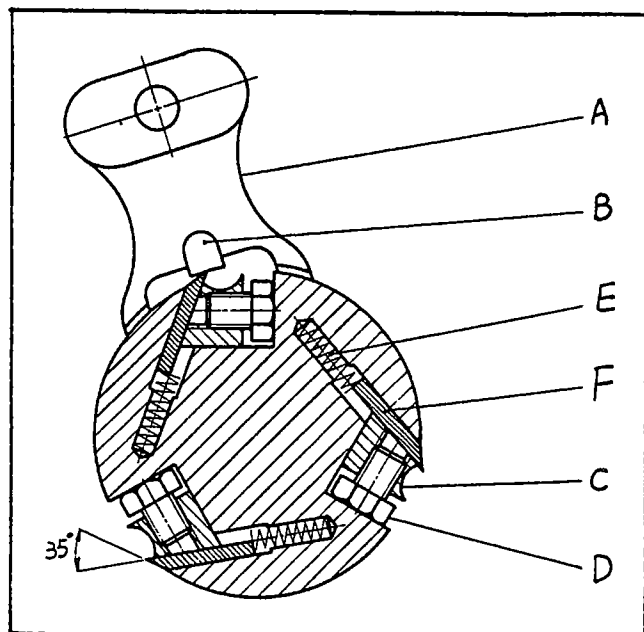

Fig. 23
B. If an adjustment to one or more of the knives is necessary, slightly loosen the knife locking bars (C) Fig. 23, of all three knives by turning the fifteen knife locking screws (D) into the knife locking bars just enough to relieve stress in the cutterhead and not disturb the setting of the knives.
C. using the knife gage, adjust the knife that must be reset by loosening all five locking screws (D) Fig 23, by turning them into the knife locking bar. As the knife locking bar becomes loose, lifter springs (E) located under the knife will raise the knife until it comes into contact with the center portion (B) of the gage (A) Fig. 23. Then snug up the knife locking bar by lightly backing out the five screws (D) against the slot. **IMPORTANT: AT THIS TIME, ONLY TIGHTEN THE KNIFE INTO THE SLOT JUST ENOUGH TO HOLD KNIFE INTO POSITION.**
A. To remove knives, loosen the knife locking bar (C) Fig. 23, by turning the five knife locking screws (D) into the knife locking bar (C) and remove the knife locking bar (C), knife (F) and springs (E) located under the knives.
D. Inspect the cutting edge of the knives for nicks or wire edge. Hone the knives slightly using a stone or if the knives are to be sharpened, maintain a cutting angle of 35 degrees as shown in Fig. 23.
E. Insert springs (E), knives (F) and knife locking bars (C), into all three slots in the cutterhead, as shown in Fig. 23. Back out locking screws (D) just enough to hold all three knives in the cutterhead.
F. Place the knife gage (A) over one of the knives, as shown in Fig. 23.
G. While holding down on the knife gage (A) Fig. 23, loosen all five locking screws (D) by turning them into bar (C) until cutting edge of knife (F) comes into contact with the protrusion (B) of gage (A). Then snug up the knife locking bar (C) by slightly backing out the five screws (D) against the slot. **IMPORTANT: AT THIS TIME, ONLY TIGHTEN THE KNIFE INTO THE SLOT JUST ENOUGH TO HOLD THE KNIFE IN POSITION.**
J. After all three knives are set with the screws just snug, back out and tighten the five screws (D) Fig. 23, against the slot starting with the end screws first and then the center screws until the knife is securely held in the cutterhead. Tighten the remaining two knives in the same manner.